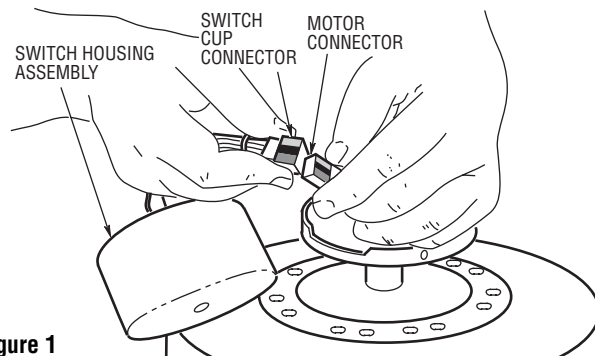

Figure 1
1. Engage the connector of the switch housing assembly with the motor connector (Figure 1). The two connectors are keyed and color-coded and must be mated correctly (color-to-color) before they can be engaged. Make sure the connector latch closes properly.